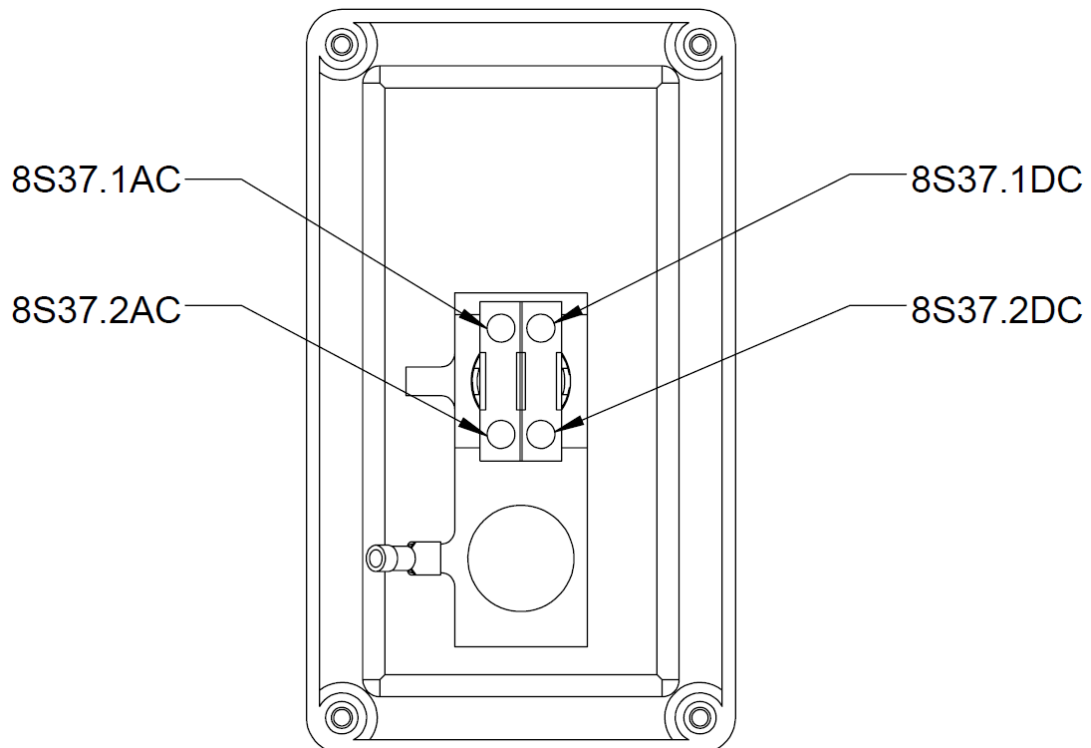

Figure 145 - Terminal Designations for System Stop Button Box without Reset
- Terminal numbers are shown in Figure 145 for PDQ Part No. 11010113.